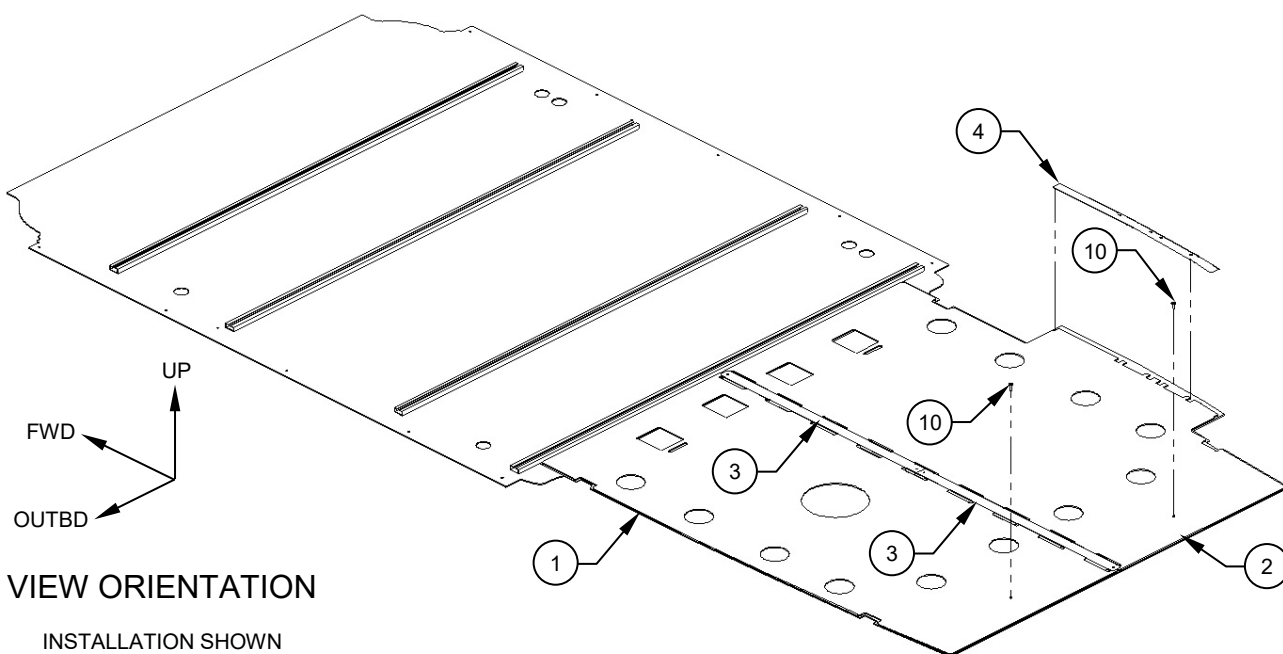

Figure 3
5. Remove Sill, Detail (Item 4), then re-install the OEM hardware. Remove the RHS Panel, Assy (Item 2) by tipping the panel on an angle and pulling it free from the Retainer Strip, Assy (Items 3). Reference Figures 3, 4 & 5.
6. Remove the Retainer Strip, Assy's (Item 3) by pulling the tabs out of the provided slots in the panel as shown. Reference Figures 3 & 4.